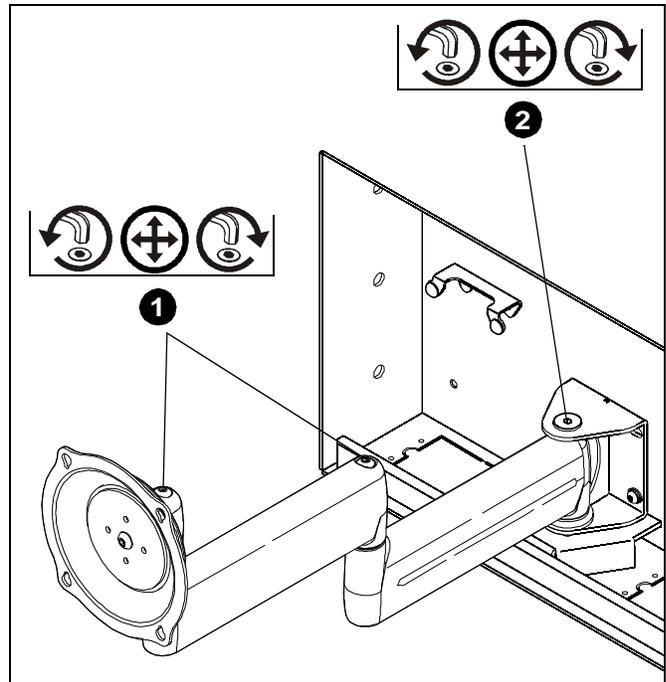

Figure 8
1. Using 3/16" hex key (P), slightly loosen or tighten the pivot/swing tension adjustment screw(s) as necessary (See Figure 8).
2. Using 7/32" hex key (Q), slightly loosen or tighten the adjustment screw at end of swing arm. (See Figure 8)